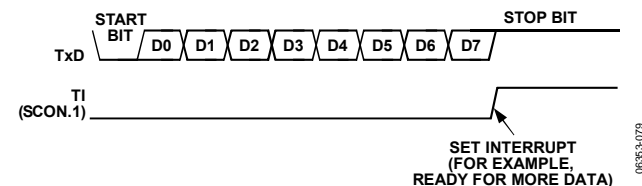

Figure 90. 8-Bit Variable Baud Rate
Transmission is initiated by a write to the Serial Port Buffer SFR (SBUF, 0x99). Next, a stop bit (1) is loaded into the ninth bit position of the transmit shift register. The data is output bit-by-bit until the stop bit appears on TxD and the transmit interrupt flag (TI) is automatically set as shown in Figure 90.